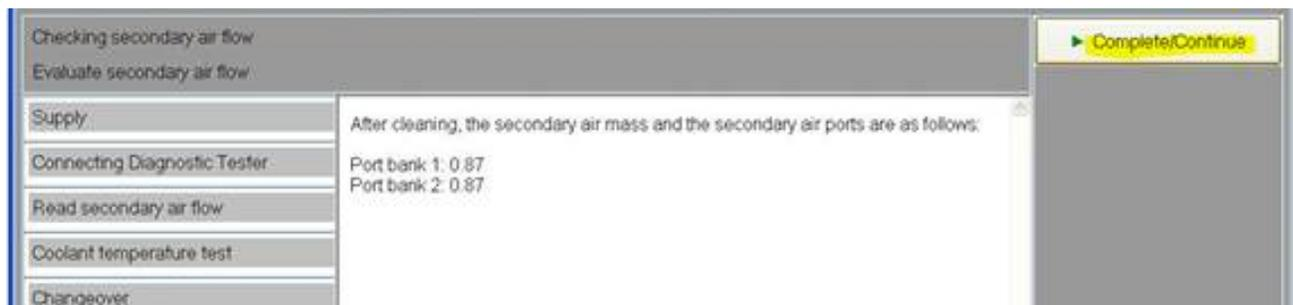

Figure 6. Check the values on both banks.
8. Select **Complete/Continue** until the screen below appears (Figure 6). If the values for both banks are approximately the same (+/- 0.05) and the values are between 0.4 and 0.7, the system needs to be cleaned. Follow the instructions below.